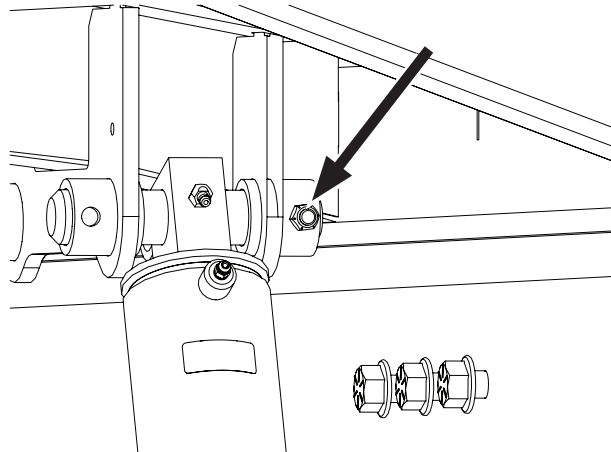

Figure 3
6. Insert the bolt through the hole on the collar of the body lift lug and cylinder pin (Figure 3).